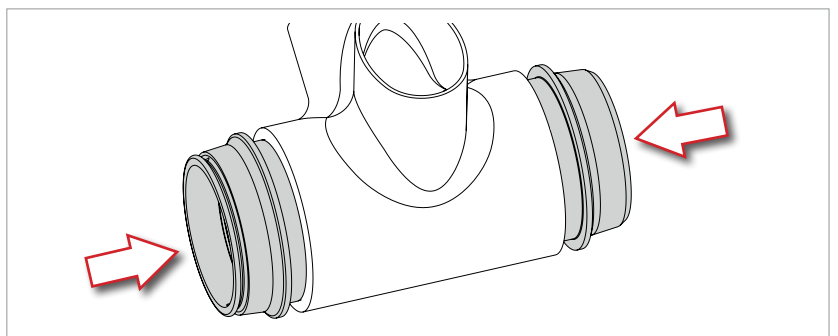

Fig.4
- Press both bottom bracket cups into the bottom bracket until the bottom bracket cups encounter resistance and the O-ring enters the bottom bracket itself and is no longer visible (Fig. 4).